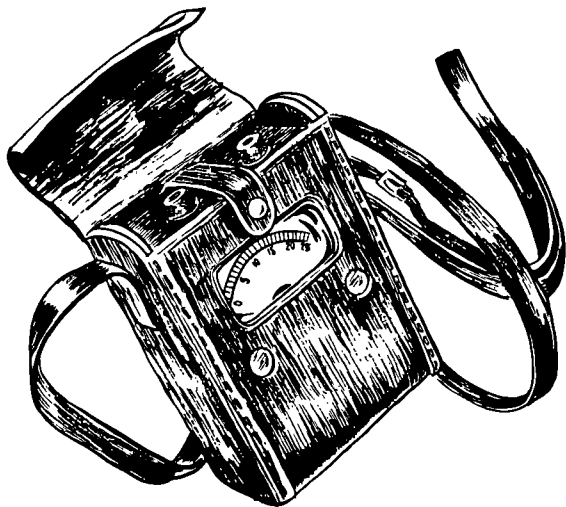

Figure 102. Galvanometer.
c. *Galvanometer.* The galvanometer (fig. 102) is an instrument used to test the continuity (uninterrupted connections) of electric firing circuits. It contains an electromagnet, a small special silver-chloride dry cell battery, and a scale with an indicator needle, all inclosed in a leather or canvas case. When the two external terminals on the galvanometer are connected in a closed circuit, the flow of current from the dry cell causes the needle to move across the scale.
- (1) *Care.* The galvanometer must be handled with care and must be kept dry. It is a delicate instrument and should not be opened except when replacing the battery. The battery tends to cease functioning at temperatures below 0° F. When using the galvanometer in cold climates, it should be protected from freezing by placing it under the clothing near the body.
- (2) *Precaution.* Use only the special *silver-chloride dry cell battery BA 245/U* in the galvanometer. Other batteries will cause detonation of blasting caps.
- (3) *Testing.* The galvanometer should be tested prior to use by holding a piece of metal across the two exterior terminals. If a wide needle deflection does not occur, battery should be replaced and test repeated.